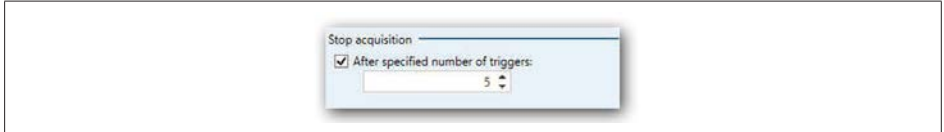

Fig. 9.31 Stop acquisition
- B A recording with multiple sweeps (in this case 5 triggers specified), first recorded to (very fast) trigger memory and after that collected in a PNRF file on a drive (see Fig. 9.31).